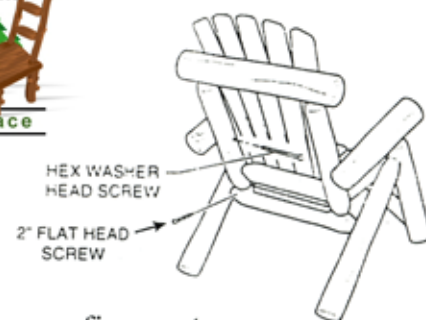

figure 4
STEP 4 Set chair in upright position on a level surface and when legs are in proper position, bring **ARM** in against **UPRIGHT** and use a hammer to hit hex washer head screw through predrilled hole in **UPRIGHT** and into hole in back side of arm about 1/2". Tighten with a 7/16" wrench or socket. Secure dowel joint in place with screw perpendicular to the doweled end as shown in figure 4. Repeat procedure for other side.